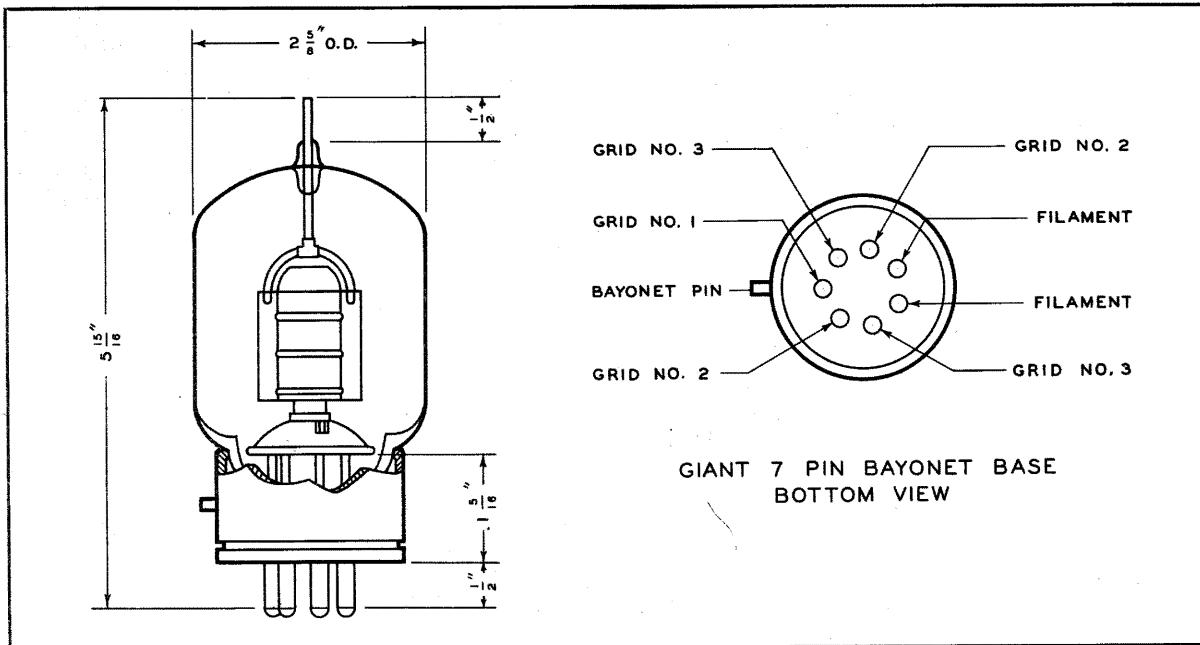

Figure 5-2. Tube JAN-4E27—Outline Dimensions and Bottom View of Socket
b. Test all tubes in another equipment known to be good. Low cathode current indicates the end of the useful life of a tube. (See figs. 5-2 and 5-3.)
- e. Measure the resistance at the tube sockets, and compare with the values given in paragraph 3, this section. (See figs. 5-2 and 5-3.)
- f. Measure the voltage at the tube sockets, and compare with the values given in paragraph 3, this section. (See figs. 5-2 and 5-3.)